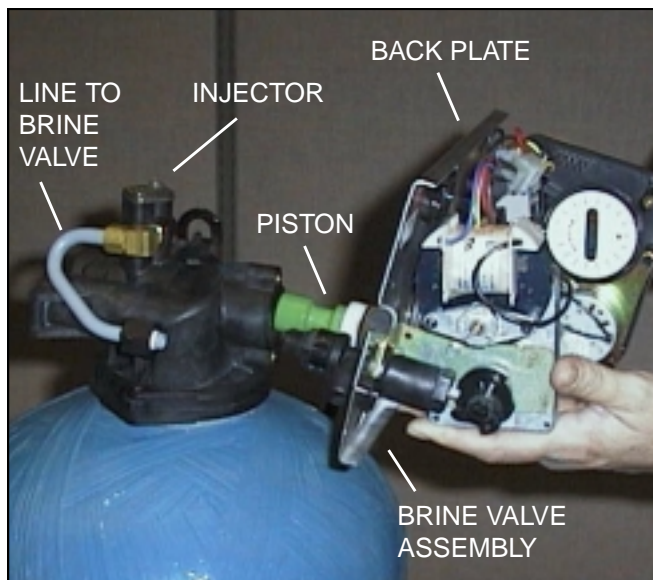

Figure 1 Removing Power Head And Piston Assembly
5. Grasp the back plate on both sides and slowly pull end plug and piston assembly out of the valve body, (see Fig. 1) and lay aside.
19. Hold the back plate with one hand and guide the piston into the valve body with the other hand, then grasp the back plate on both sides and slowly push the piston assembly and end plug assembly into the valve (See Fig. 1).